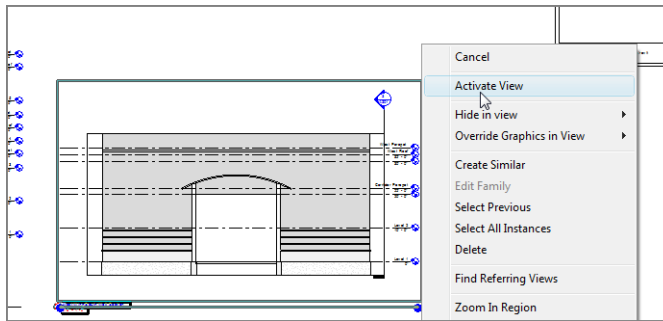

FIGURE 14.11: Activating a view
2. Zoom in on the viewport West Wing South Wall Section, as shown in Figure 14.11.
4. Right-click, and select Activate View (see Figure 14.11).